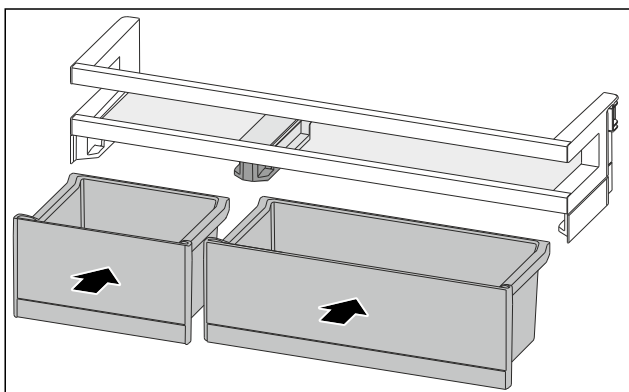

Fig. 158
- ▶ Insert the VarioBoxes in reverse order. (see Fig. 158)